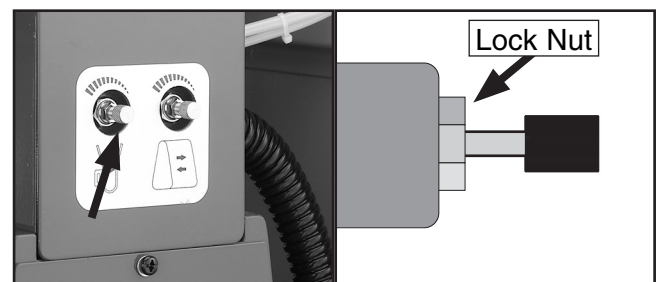

Figure 28. Airflow adjustment knob.
2. Loosen the lock nut on the airflow adjustment knob (**Figure 28**).
3. Turn the airflow adjustment knob (**Figure 28**) clockwise until the airflow is completely **OFF**. The upper roller should pivot to the right.
5. Tighten the lock nut (**Figure 28**) to secure the airflow adjustment knob.